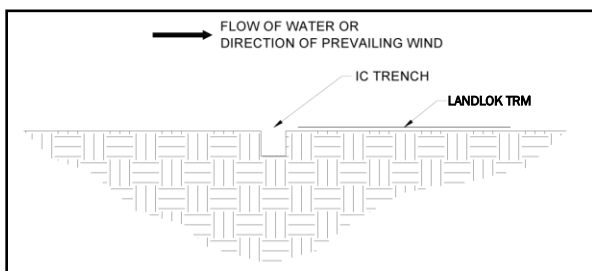
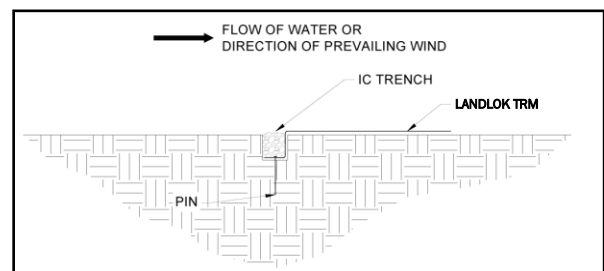
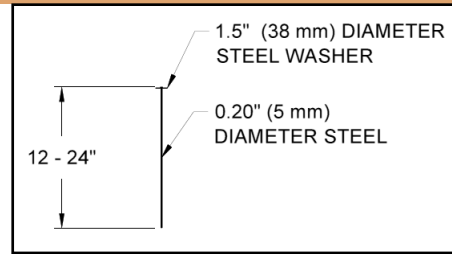

Figure 4: Initial Channel (IC) Trench Alignment
Figure 5: Initial Channel (IC) Trench Placement
Figure 6: Securing Pin
2. Lay the LANDLOK panel on the downstream side of the IC trench (Figure 4). Place the panel edge in the IC trench, ensuring full coverage along the bottom of the entire IC trench with the LANDLOK (Figure 5).
3. Secure LANDLOK with pins in the IC trench (Figure 5). Pins should be made of steel with a 0.20 in (5 mm) minimum diameter, having a 1.5 in (38mm) diameter washer at the head, and a length between 12 and 24 in (300-600 mm) with sufficient ground penetration to resist pullout (Figure 6). Longer pins may be required for looser soils. Heavier metal stakes may be required in rocky soils. Suggested placement of pins for the IC trench is along the bottom of the trench with pins on 12 in (300 mm).
4. Backfill and compact the IC trench (Figure 5).